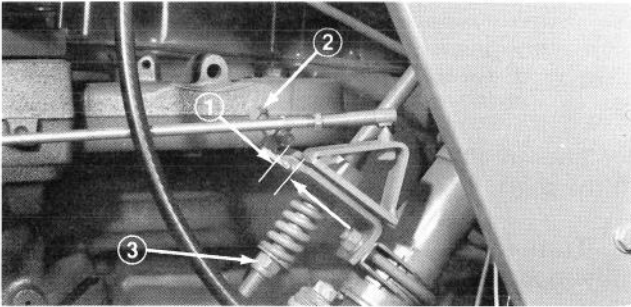

Figure 59
2. Adjust the low speed stop screw so 1/8 inch (3 mm) protrudes through the bracket as shown in Figure 59. Secure with the jam nut.
8. If the throttle lever "creeps" at high speeds, tighten the lever tension nut (Fig. 59) to apply additional tension to the lever.